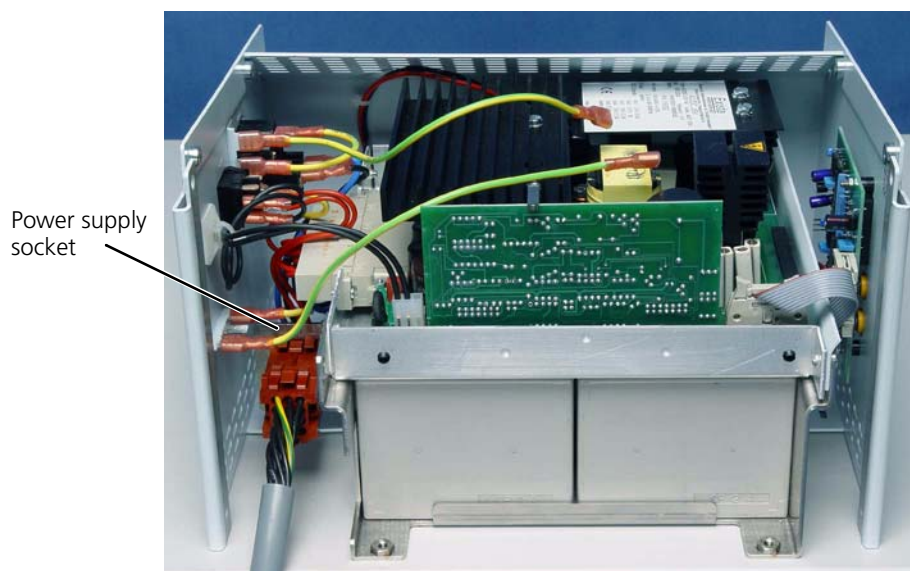

Figure 11-12. Location of power cable socket on power supply board
7. Locate the power cable socket on the power supply board. (Figure 11-12.)